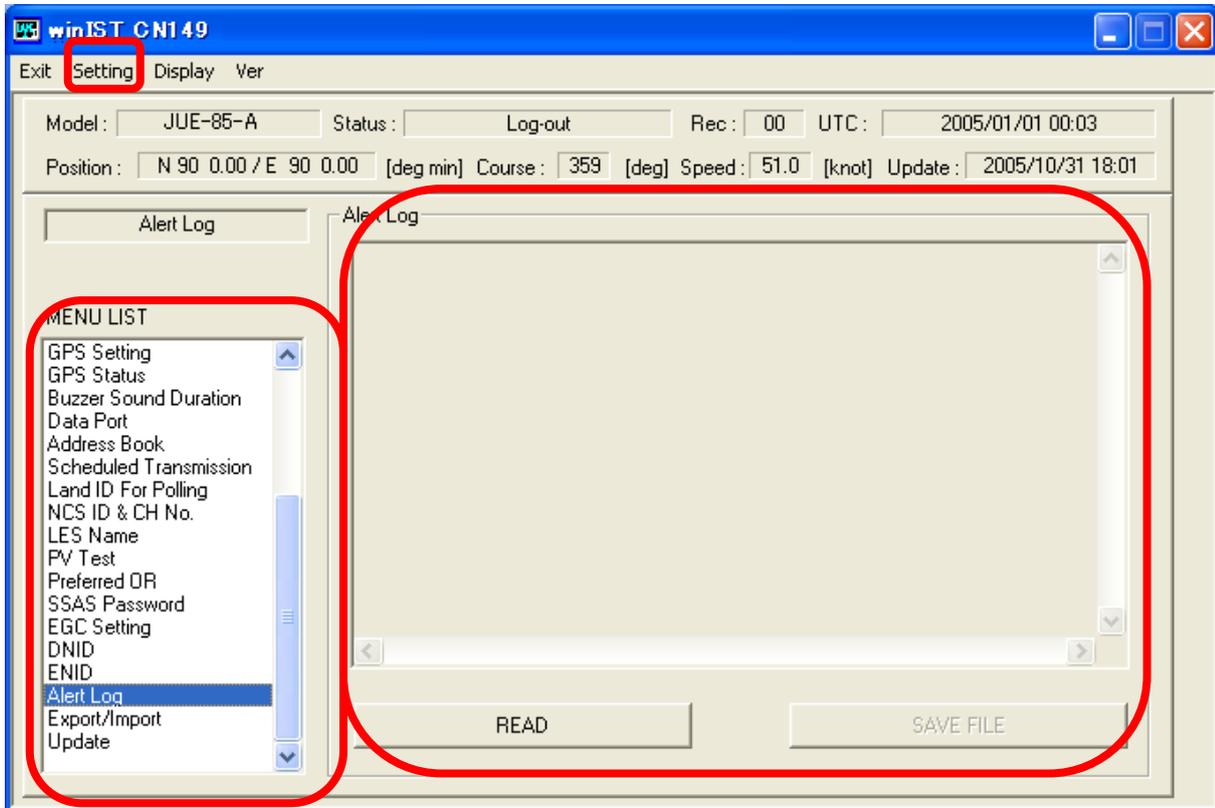

Fig. 4-30a Alert Log screen
2. Operation except [Exit], [Display], and/or [Ver] is not possible while winIST is communicating with INMARSAT terminal(the function in the frame of **Fig. 4-30a Alert Log screen** cannot be operated.)